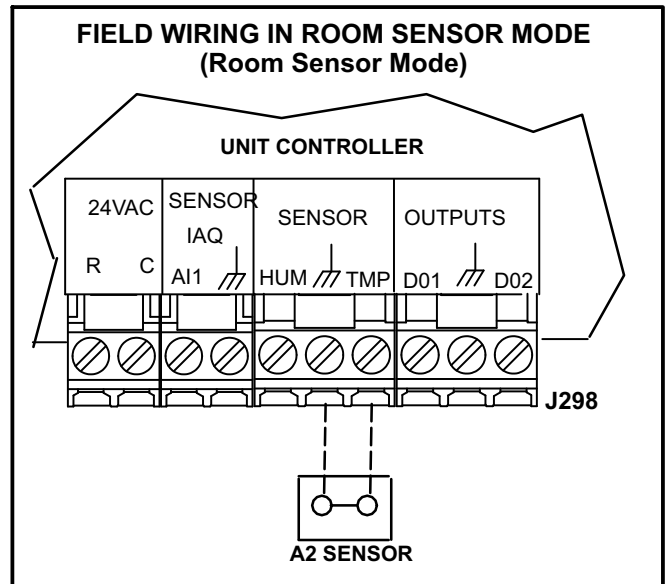
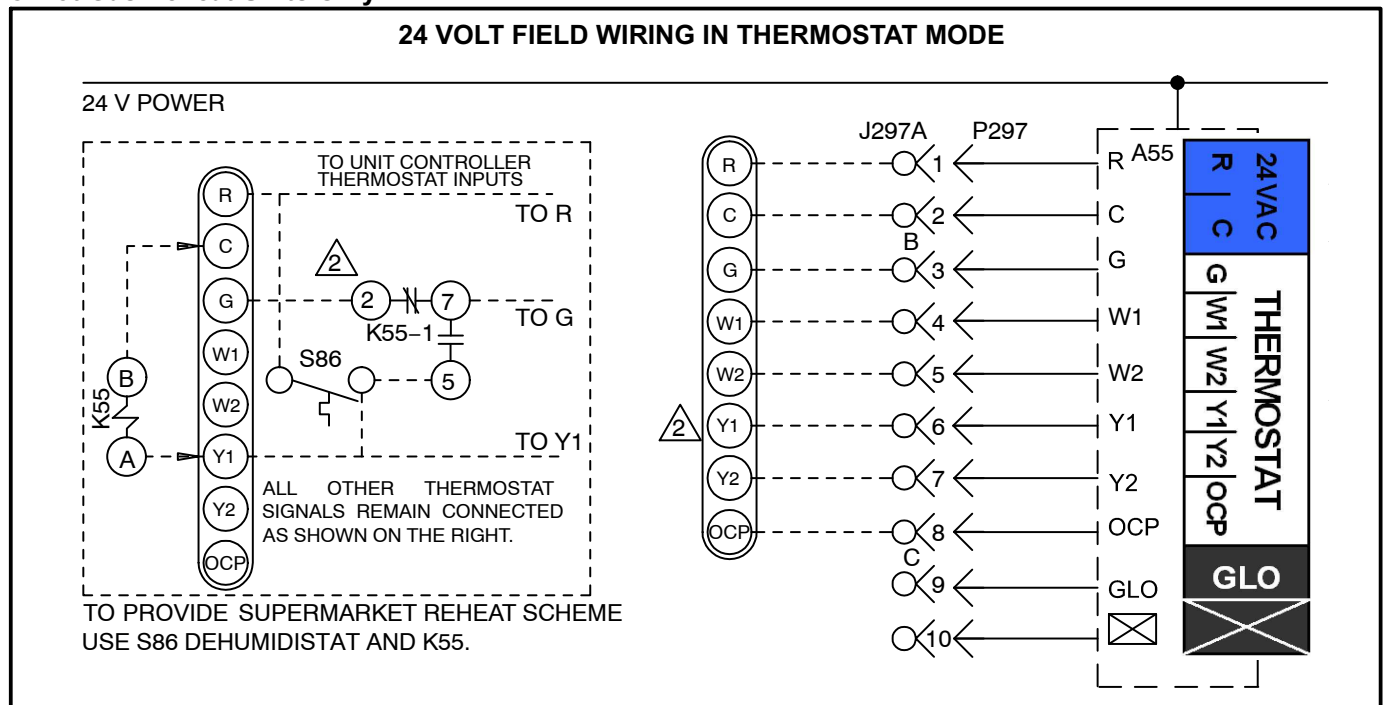
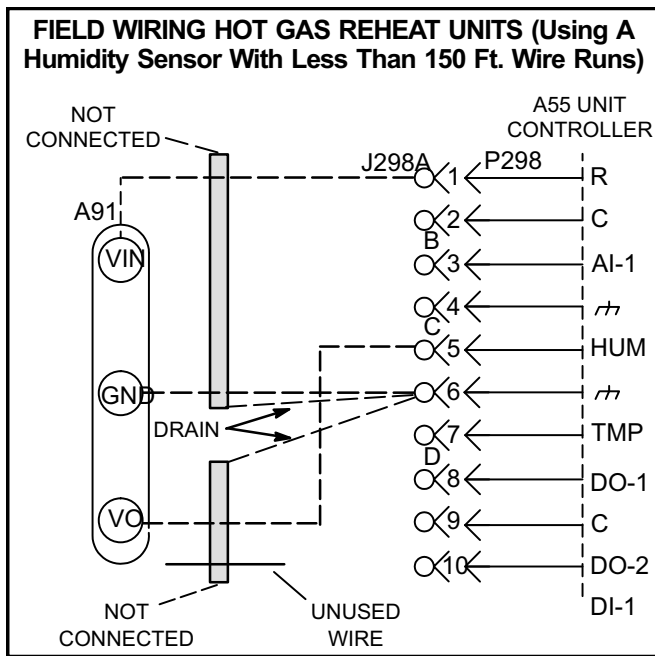
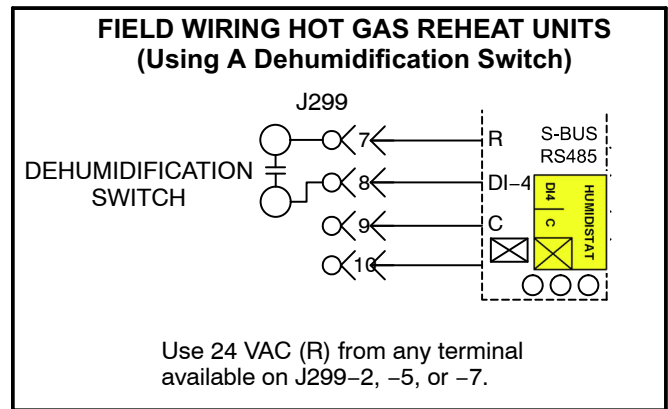

FIGURE 14
FIGURE 15
FIGURE 16
FIGURE 18
- 4- Wire as shown in figure 15 for electro-mechanical and electronic thermostats. If using other temperature control devices or energy management systems see instructions and wiring diagram provided by manufacturer.
The Unit Controller will operate heating and cooling based on the Unit Controller internal setpoints and the temperature from the A2 room sensor. An optional Network Control Panel (NCP) can also be used to provide setpoints. A thermostat or return air sensor can be used as a back-up mode. Make room sensor wiring connections as shown in figure 14.
- 2- Make wiring connections as shown in figure 15 for thermostat mode or figure 14 for room sensor mode. In addition, connect either a humidity sensor or a dehumidification input. See figure 16 or 17 for humidity sensor wiring or figure 18 for dehumidification input wiring.
Use two separate shielded cables containing 20AWG minimum, twisted pair conductors with overall shield. Belden type 8762 or 88760 (plenum) or equivalent. Connect both cable shield drain wires to the Unit Controller as shown in figure 16.
Use two separate shielded cables containing 18AWG minimum, twisted pair conductors with overall shield. Belden type 8760 or 88760 (plenum) or equivalent. Connect both cable shield drain wires to the Unit Controller as shown in figure 16.